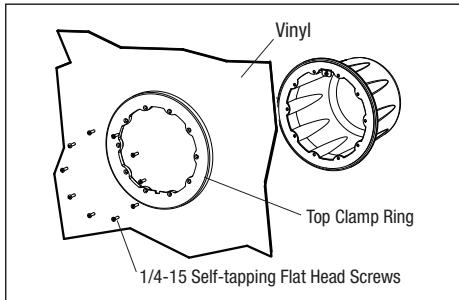

Figure 5. Vinyl Pool Installation
- Line up the face ring with the niche. Be sure to orient the niche so that the 'TOP' marking of the niche is in the 12 o'clock position and secure the face ring to the niche using ten (10) 1/4-15 self-tapping flat head screws. Torque screws in a cross pattern to approximately 25 in-lbs. See *Figure 5*.